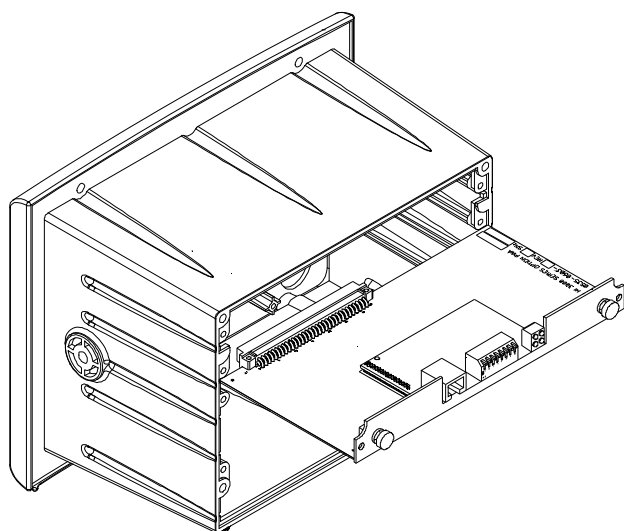

FIG. 64: ETHERNET I/P/SLIDE INTO OPTION SLOT #0
- Step 2. Slide the EtherNet/IP Option Card into Slot #0. (See Fig. 64)